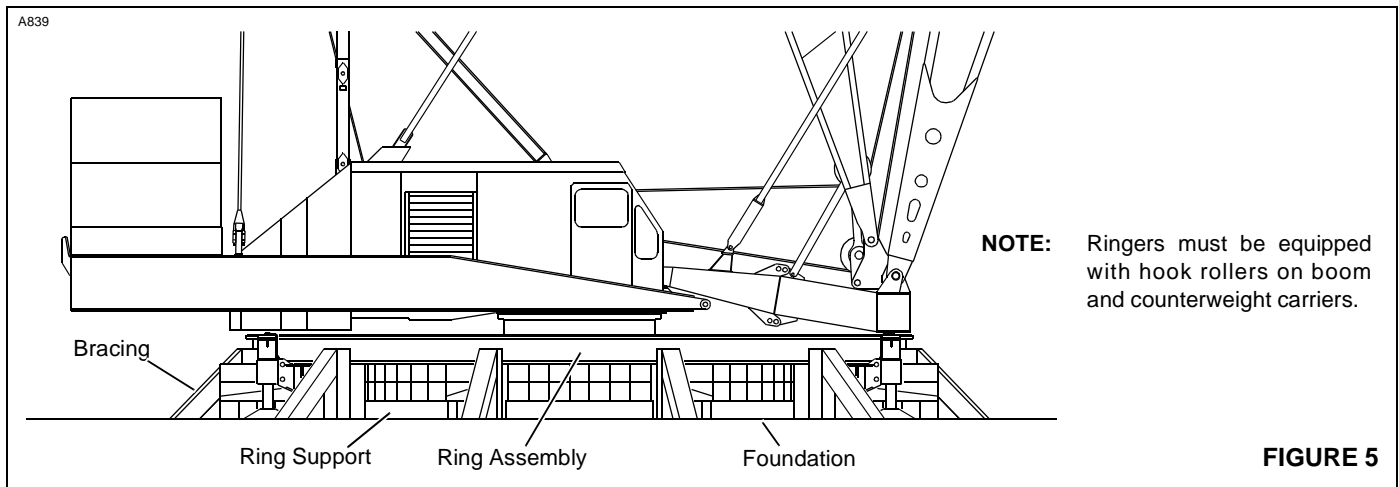

FIGURE 5
3. RINGER® (crawler mounted, carbody mounted) supported on blocking, screw jacks or steel pedestals which are braced and fastened to foundation in such a manner as to prevent movement (Figure 5).